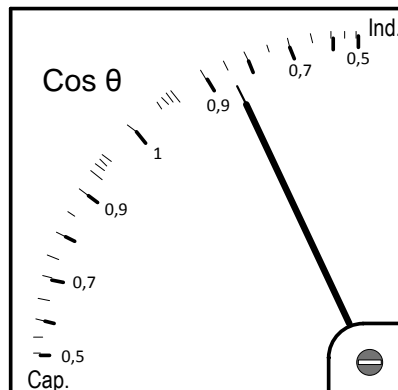

FIGURE 4.4: POWER FACTOR METER
4.4 FIGURE 4.4 below shows an analogue power factor meter. Answer the questions that follow.